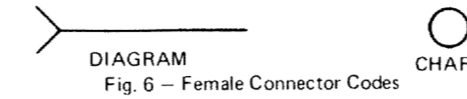

Fig. 6 - Female Connector Codes
- Female connector symbol is shown in Figure 6.